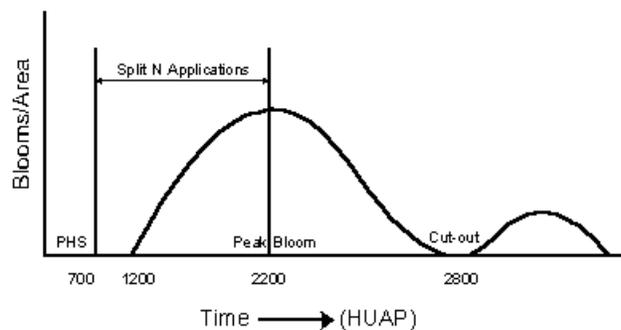

Figure 1. Recommended window for nitrogen applications.
Fertilizer nitrogen (N) represents a crop production input that should be used carefully in an effort to manage for optimum efficiency, high yields, and earliness. The most efficient use of fertilizer N (a high proportion of fertilizer N actually taken up and utilized by the crop) is achieved by providing the N at a time that the plant can use it. The N requirements of a cotton crop basically follow the same pattern as flowering or fruiting on the crop. Accordingly, N demand is very low early in the season, picks up through early fruiting, reaches a peak demand at peak bloom, and gradually declines as the crop approaches and proceeds through cut-out. A recommended window for applying split applications of fertilizer N to cotton is shown in Figure 1, beginning at first pinhead square formation and ending just prior to peak bloom.